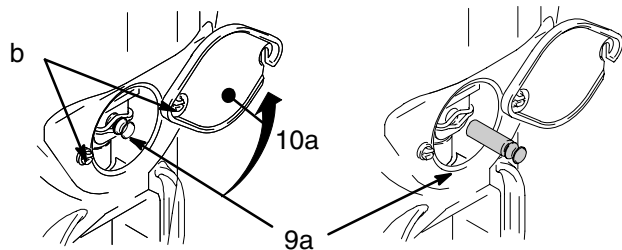

Fig. 10 9573A
1. Flush pump (13).
3. Fig. 10. Loosen two screws (10b) and rotate cover (10a).
2. Fig. 10. Install pump pin (9a). Verify retainer spring (9b) is in groove of pump pin.
8. Fig. 10. rotate cover (10a); tighten screws (10b).